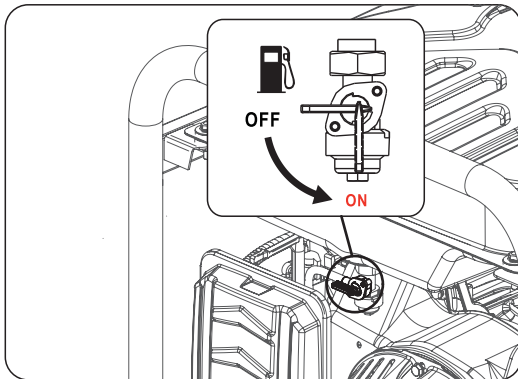

Fig 6
- Turn fuel valve to the “ON” position. (See fig 6)